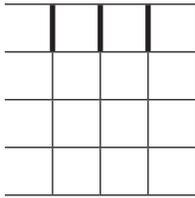

Figure 1
- ◆ (Figure 1) Spread the adhesive and allow the proper set up time. Begin laying the tile along the working line. Insert one of the precut divider strips between each tile. Install the field tiles first, and the border tiles later. Use a hand roller as you lay each strip, to be sure the strip makes full contact with the adhesive.